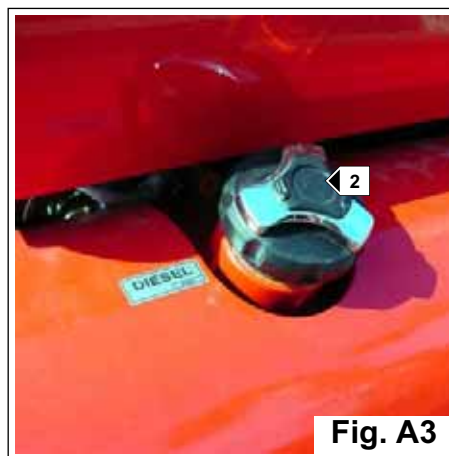

Fig. A3
- Remove the cap "2" (Fig. A3).
- Replace the cap "2" (Fig. A3).